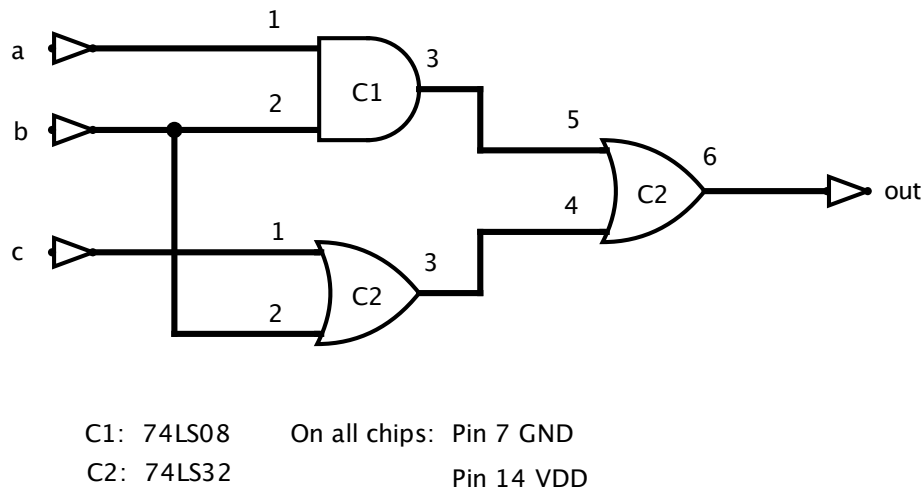
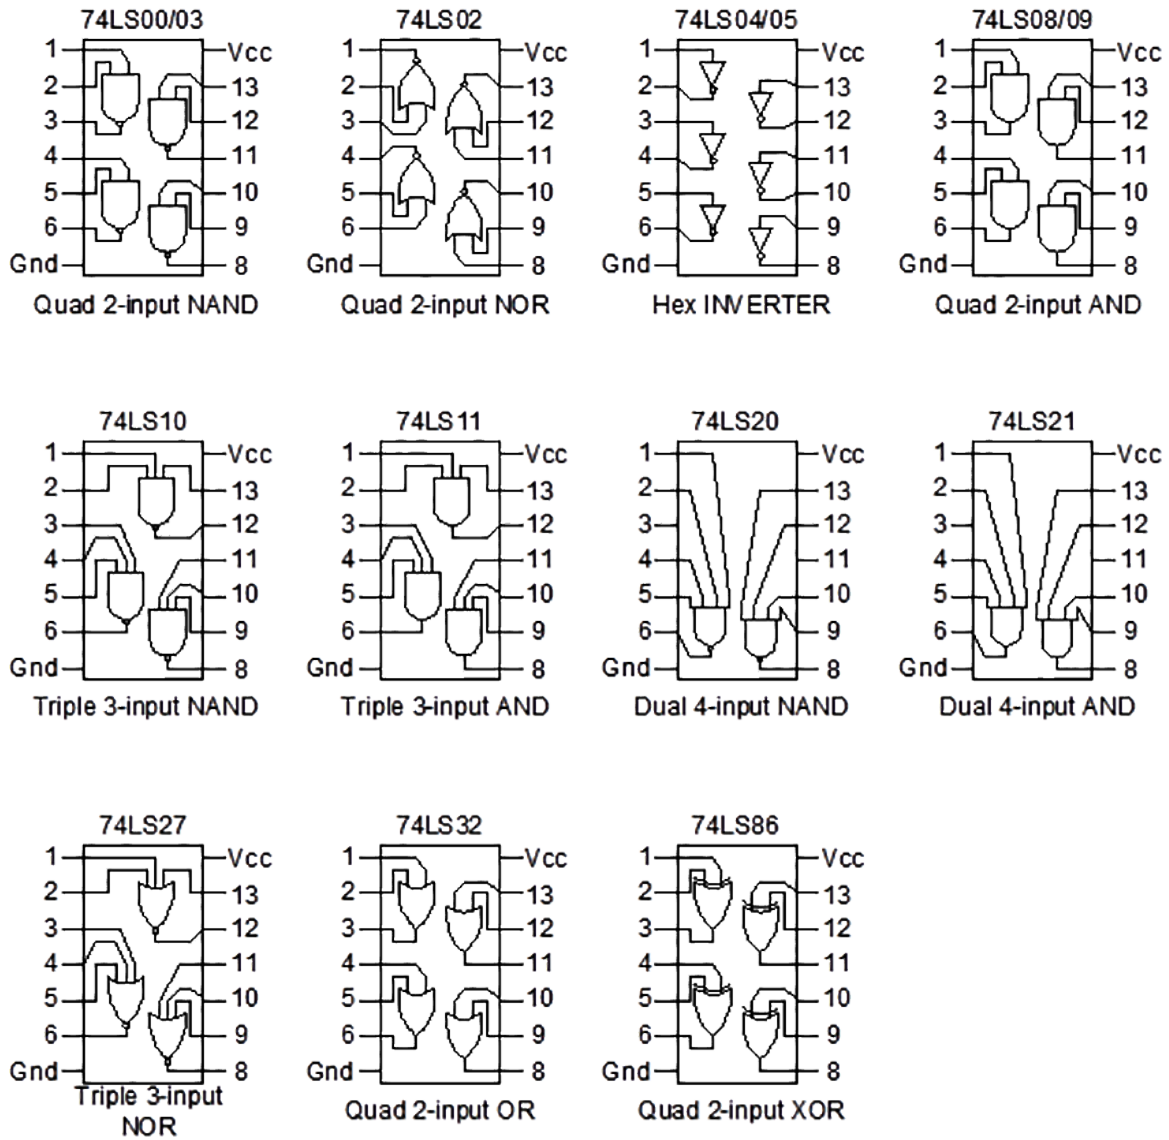

Figure 2: Example Schematic Diagram
Figure 4: Pin-Out Information for 7400-series Chips
the **schematic diagram** is shown in Figure 2. Check the correspondence of the pin numbers on the schematic with the pin-out information sheet in Figure 4.
**Important:** You are allowed to use only the following packages: 7404 (NOT gates), 7408 (AND gates) and 7432 (OR gates). Figure 4 shows the pin-outs for these chips.